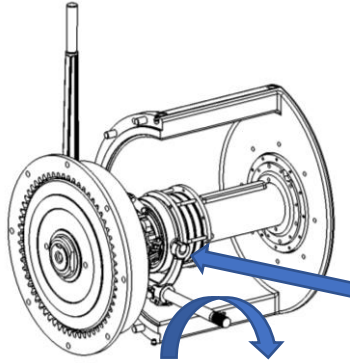

Figure 7
*****IMPORTANT***TURN ENGAGEMENT SHAFT TO ALIGN FORKS WITH BALL BEARING COLLAR AS CLUTCH IS POSITIONED ONTO SHAFT SEE Figure 7**